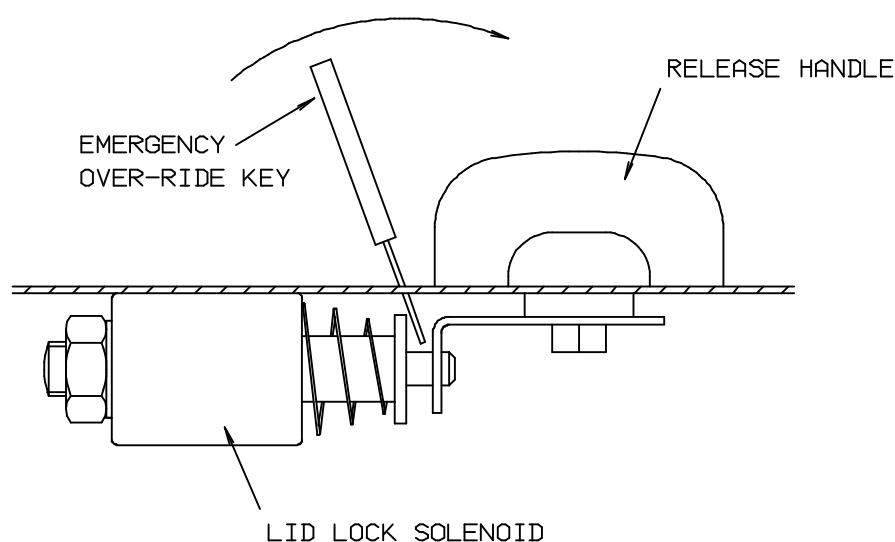

Figure 11 Lid lock override method (viewed from front)
3. Move the key as shown in Figure 11 below to move back the lid lock solenoid.